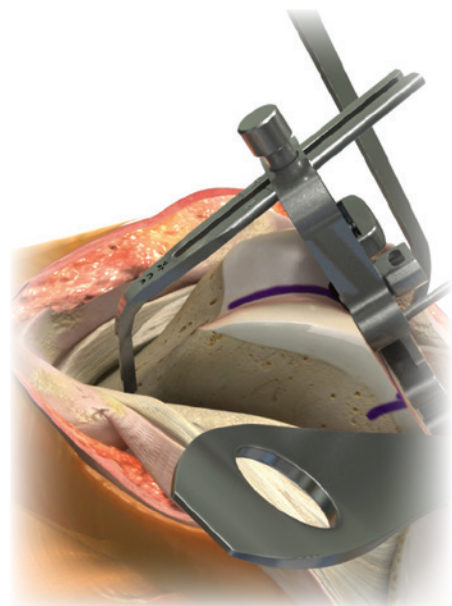

Figure 16c
5. In order to determine femoral size, position the stylus tip just lateral of the anterior trochlear sulcus and slide the femoral sizer housing down until the stylus touches the anterior cortex. The size is indicated against the laser marked “SZ” (Figure 16c).